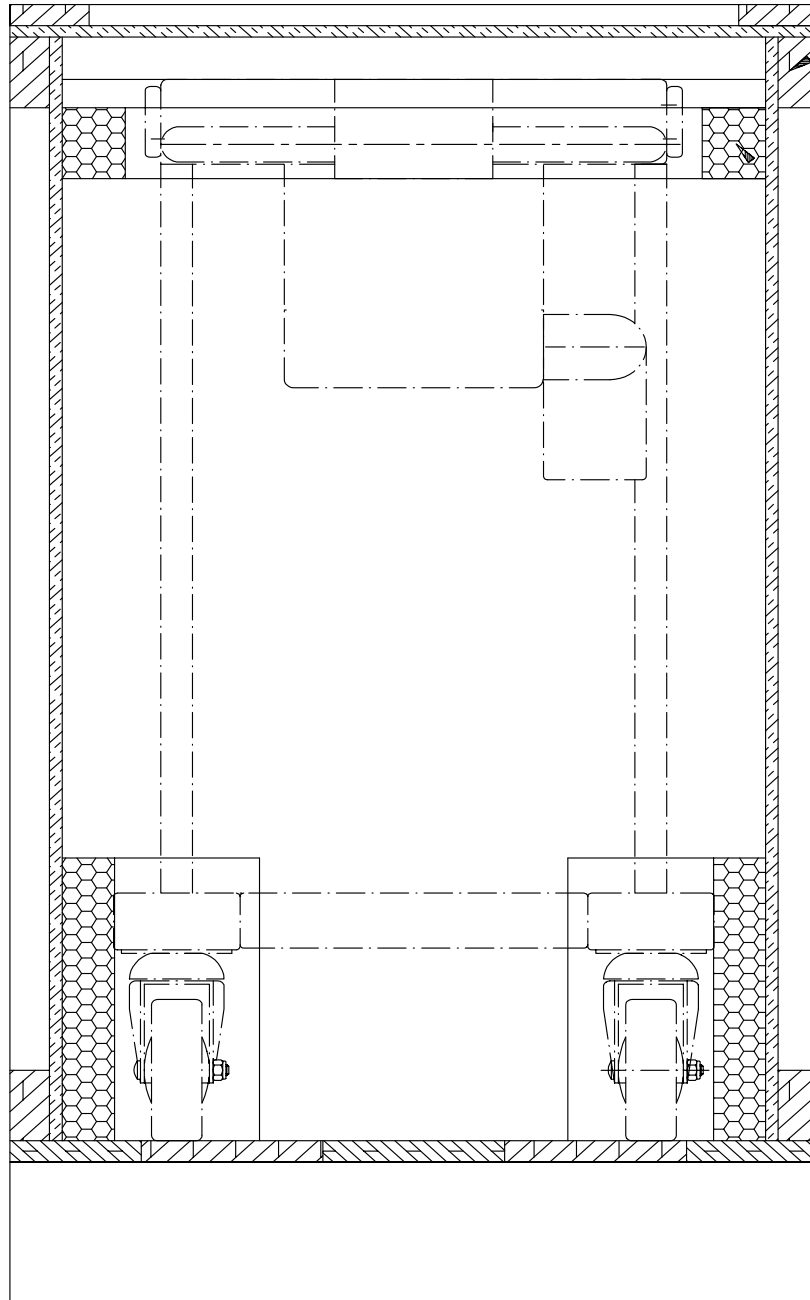

Figure 3-8 Global Trolley Unpacking
- 1.) Unpack the global trolley packed in a wooden box by opening the top cover, refer Figure 3-8 (trolley which is inside the box is seen in the diagram).
2.) Unpack the Modular Trolley packed in a box by opening the top cover, refer Figure 3-8